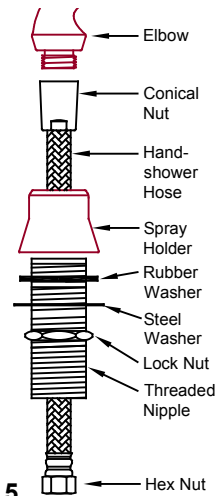

Fig. 5
- Remove threaded nipple from spray holder. Insert threaded nipple up through deck, keeping lock nut, steel washer and rubber washer facing up towards deck from below. (See fig. 5)